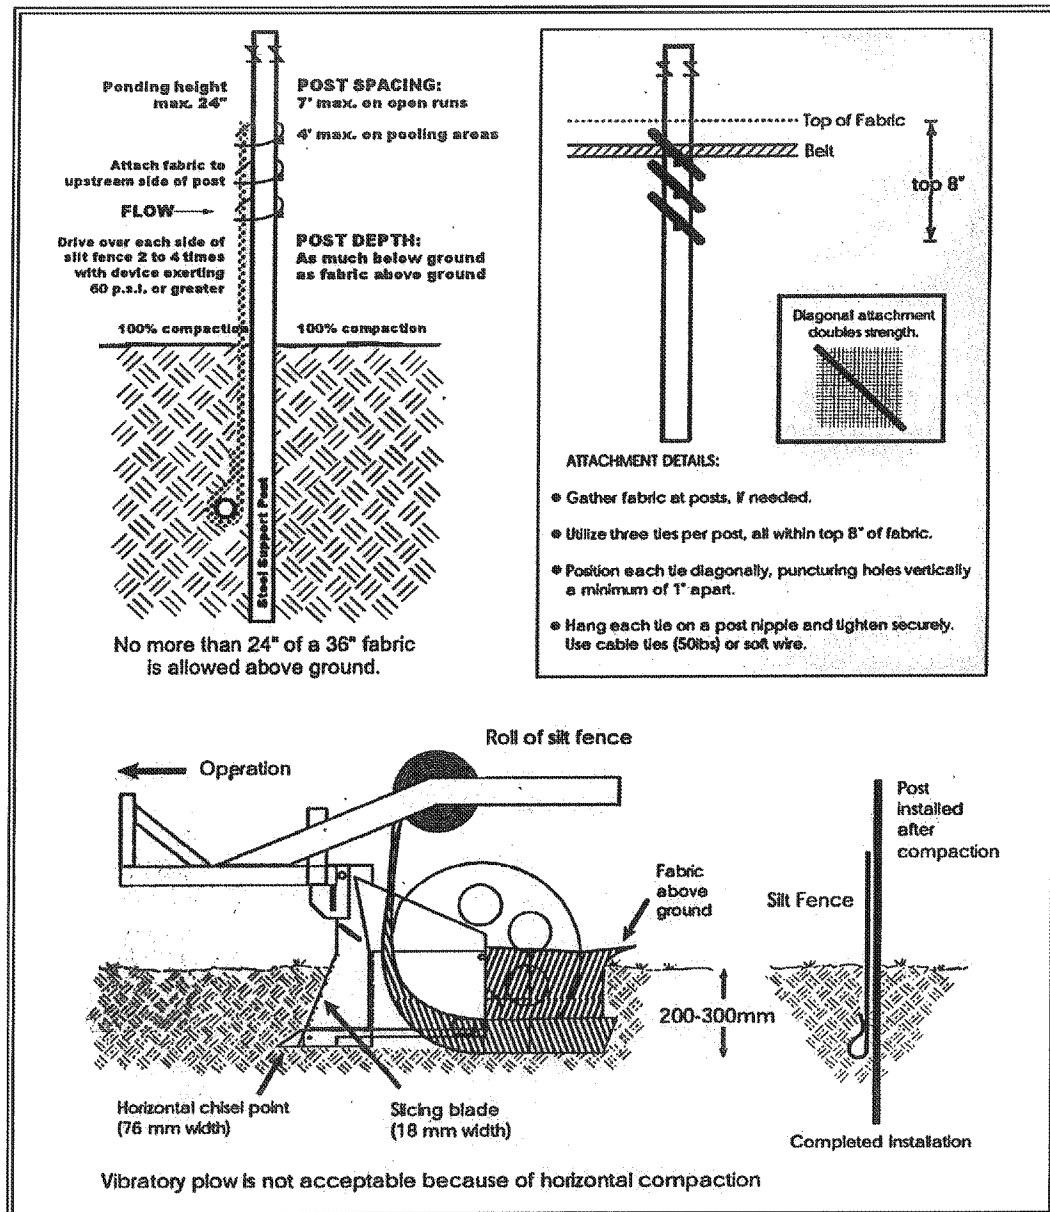

Figure 4.2.13 – Silt Fence Installation by Slicing Method
- Refer to Figure 4.2.13 for slicing method details. Silt fence installation using the slicing method specifications: